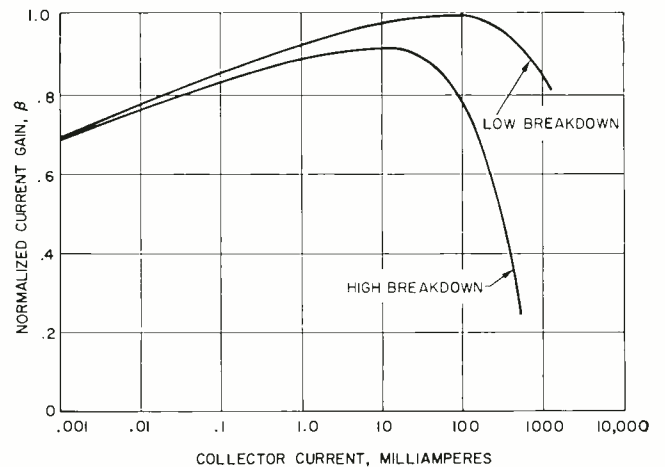

Fig. 4. Beta vs collector current for diffused transistors.
**Current gain,  $\beta$ :** The behavior of  $\beta$  with collector current for a typical diffused transistor is shown in Fig. 4. The curves represent the performance of two silicon annular transistors which are identical in all respects except for breakdown voltage,  $BV_{CBO}$ . It should be noted that in the high-breakdown transistors,  $\beta$  peaks at a lower current and falls off much more rapidly with current than in the low-breakdown case. This effect is often referred to as a forward a.g.c. characteristic, because the gain decreases with increasing current.